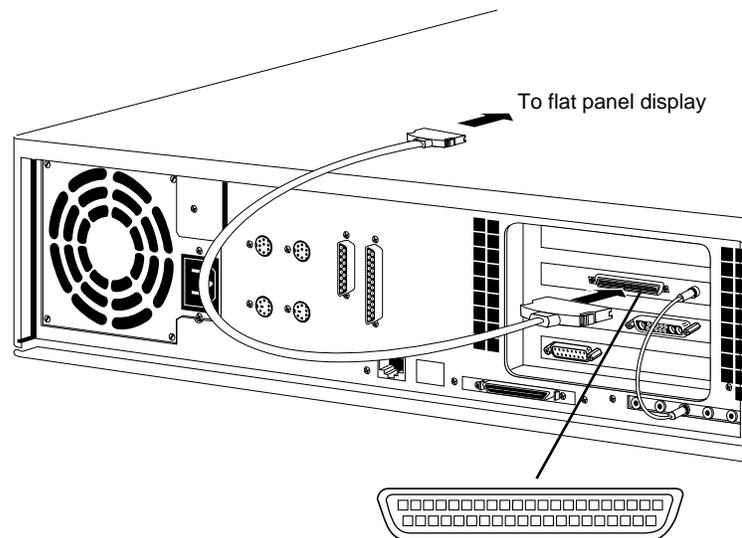

Figure 1-42 Location of the Connector for the Presenter Interface Cable
1. Connect the interface cable to the Presenter connector on your workstation, as shown in Figure 1-42.